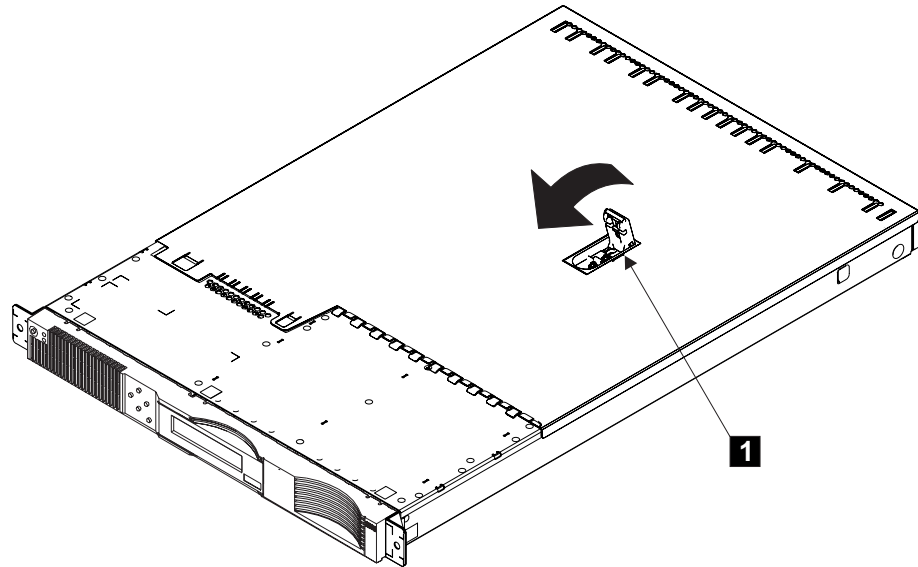

Figure 88. Installing the Top Cover
1. Refer to Figure 88 on page 173.